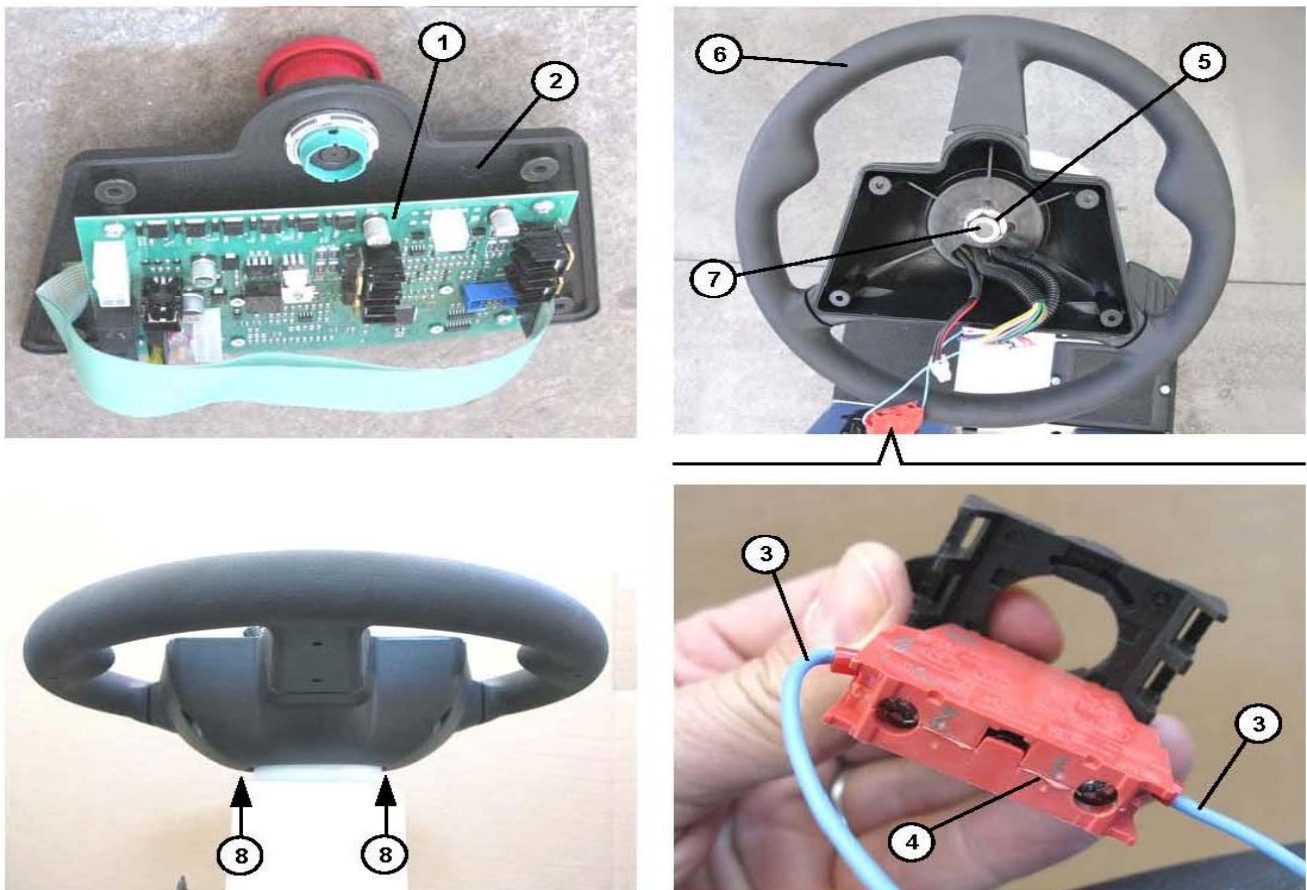

Figure 10-3
1. Remove the electronic functions (see the procedure in the specific paragraph), but without separating the function board (1, **Figure 10-3**) from the support with the keyboard.
2. Operating on the steering wheel, disconnect the electrical cables (3) from the electrical connector (4) of the emergency stop switch.
3. Unscrew the central nut (5) of the steering wheel (6).
4. Using a workshop extractor, pull off the steering wheel (6) from the conical engagement with a key, exerting force on the point (7) opposite the points (8). To prevent damage to the steering wheel, apply force distribution shims to the areas (8).